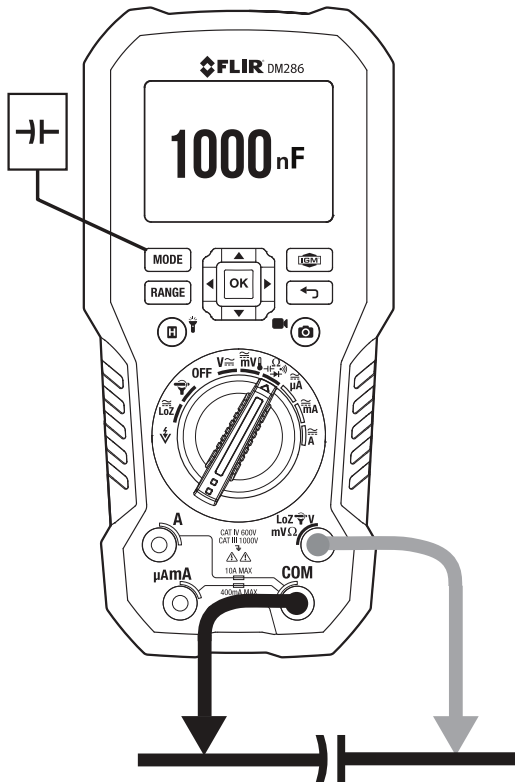

Fig. 9.7 Capacitance Measurements
1. Set the function switch to the $\rightarrow|-\leftarrow$ position. See **Fig. 9.7**.